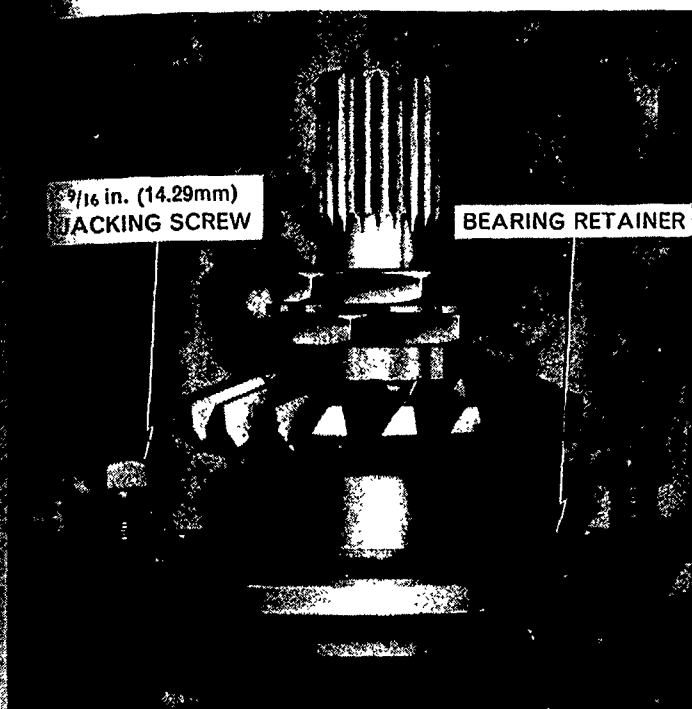

Figure 65
3. Remove the six bolts and lockwashers securing the drive pinion assembly to the rear axle centre housing and using two $\frac{3}{16}$ in. N.C. bolts as jacking screws remove the drive pinion assembly, Figure 65.